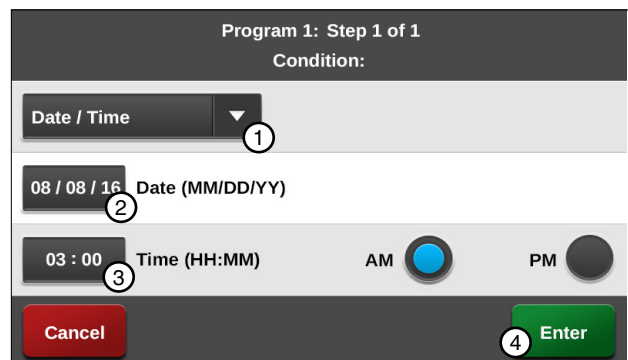

Figure 107-3 1. Date/Time Drop-Down 3. Time
- a) Select the **Choose Condition** drop-down menu and choose **Date/Time**. Refer to Figure 107-3.